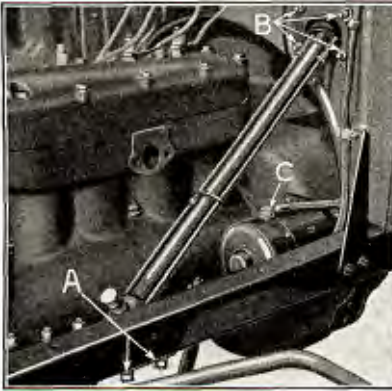

Fig. 35
- (c) Run off nuts on the ends of the two steering gear bracket bolts—lower (See "A" Fig. 35) and withdraw bolts.
- 36 **Disconnect starting motor to switch cable** by running off terminal nut (See "C" Fig. 35) on starting motor, and lifting off cable.